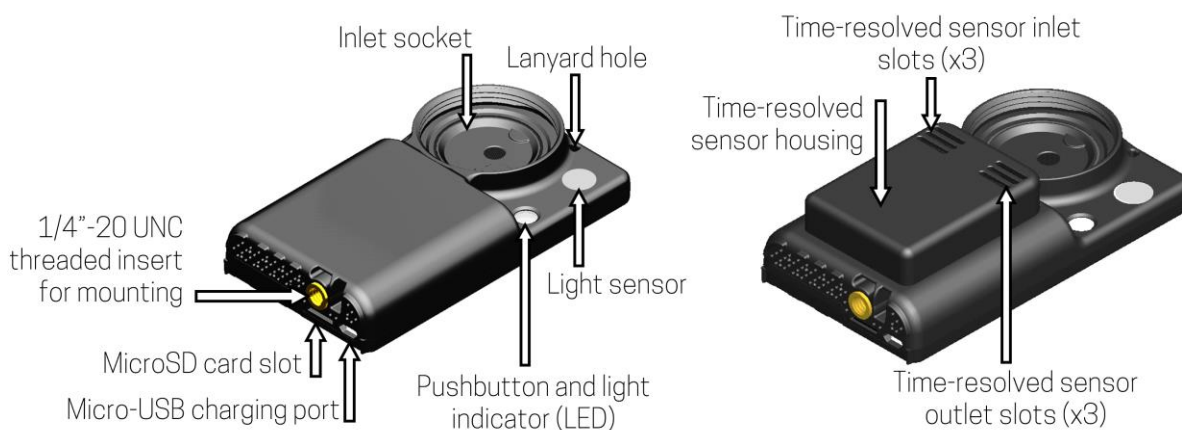

Figure 2. UPAS v2.1 (left) and UPAS v2.1 PLUS (right) with key components identified.
The UPAS v2.1 and the UPAS v2.1 PLUS have many common features (**Figure 2**, left). Both measure particulate matter air pollution by sampling air at a regulated flow rate through a size-selective inlet onto a 37- or 25-mm-diameter filter. To collect a filter sample of PM using the UPAS, the user must install a size-selective inlet and filter in the inlet socket as shown in **Figure 3**.
In addition to the core features included in the v2.1, the v2.1 PLUS (**Figure 2**, right) includes time-resolved sensors for particulate matter (Sensirion SPS30), CO₂ (Sensirion SCD41), total volatile organic compounds (Sensirion SGP41; qualitative), and NO_x (Sensirion SGP41; qualitative). On the UPAS v2.1 PLUS, the air flow path for the filter sample (air path 1) is independent of the air flow path for the time-resolved sensors (air path 2; see **Figure 3**). The UPAS v2.1 PLUS can operate and log data from the time-resolved sensors without collecting a filter sample. The air at the outlet of path 1 has been filtered by the filter sample media. No filtering occurs in path 2. Make sure all inlets and outlets remain unblocked during sampling.
Before powering-on the UPAS, ensure that a UPAS-compatible microSD card is installed in the slot on the bottom of the UPAS (**Figure 2**).
- 2 Insert the microSD card into the slot on the bottom of the UPAS (under the threaded mounting hole; see **Figure 2**). The gold metal tabs on the microSD card face the back of the UPAS. The microSD card will not insert all the way or snap into place if it is upside down or backwards.